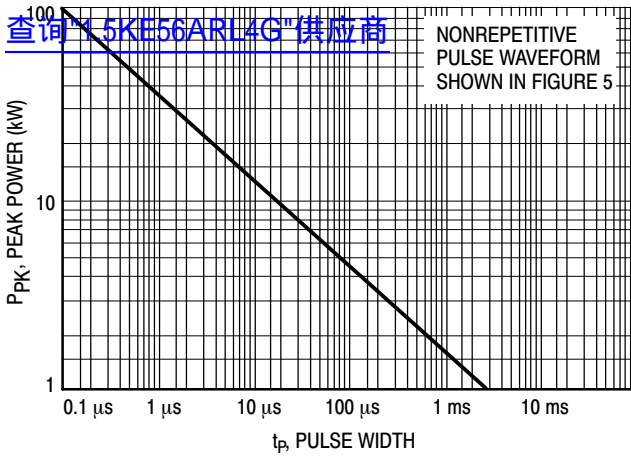
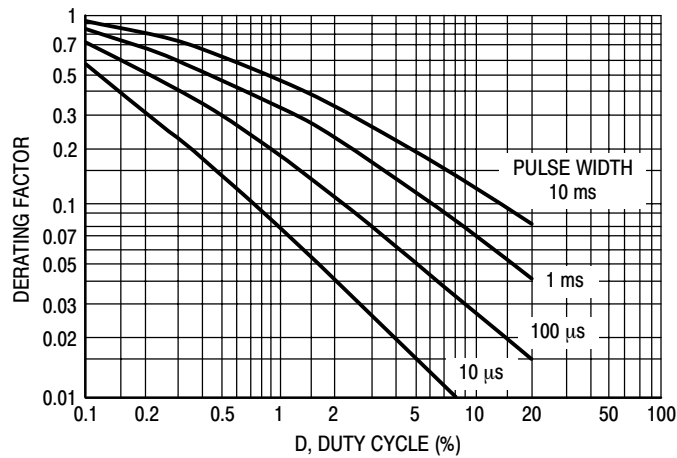

Figure 1. Pulse Rating Curve
Figure 7. Typical Derating Factor for Duty Cycle
7. Surge current waveform per Figure 5 and derate per Figures 1 and 2.
The data of Figure 1 applies for non-repetitive conditions and at a lead temperature of 25°C. If the duty cycle increases, the peak power must be reduced as indicated by the curves of Figure 7. Average power must be derated as the lead or
At first glance the derating curves of Figure 7 appear to be in error as the 10 ms pulse has a higher derating factor than
the 10 μ s pulse. However, when the derating factor for a given pulse of Figure 7 is multiplied by the peak power value of Figure 1 for the same pulse, the results follow the expected trend.